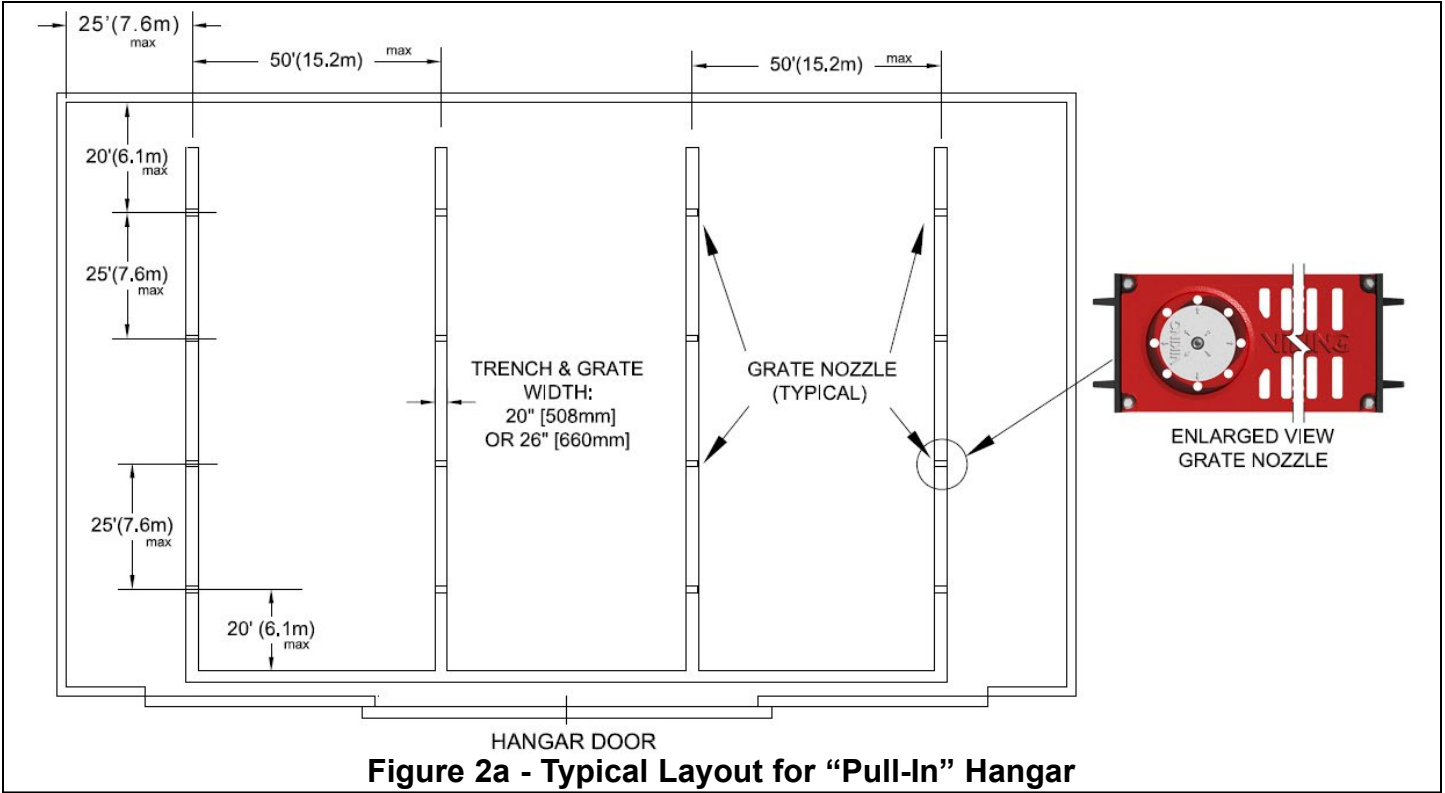

Figure 2a - Typical Layout for "Pull-In" Hangar
1. Refer to Figures 2a & 2b for an example of spacing Grate Nozzles. Standard practice is to locate the Grate Nozzles so that the maximum distance between nozzles in a trench is 25' and that trench drains are not located in excess of 50' on center, (25' maximum from walls). Configurations other than this may be acceptable, contact Viking for designs other than what is indicated.